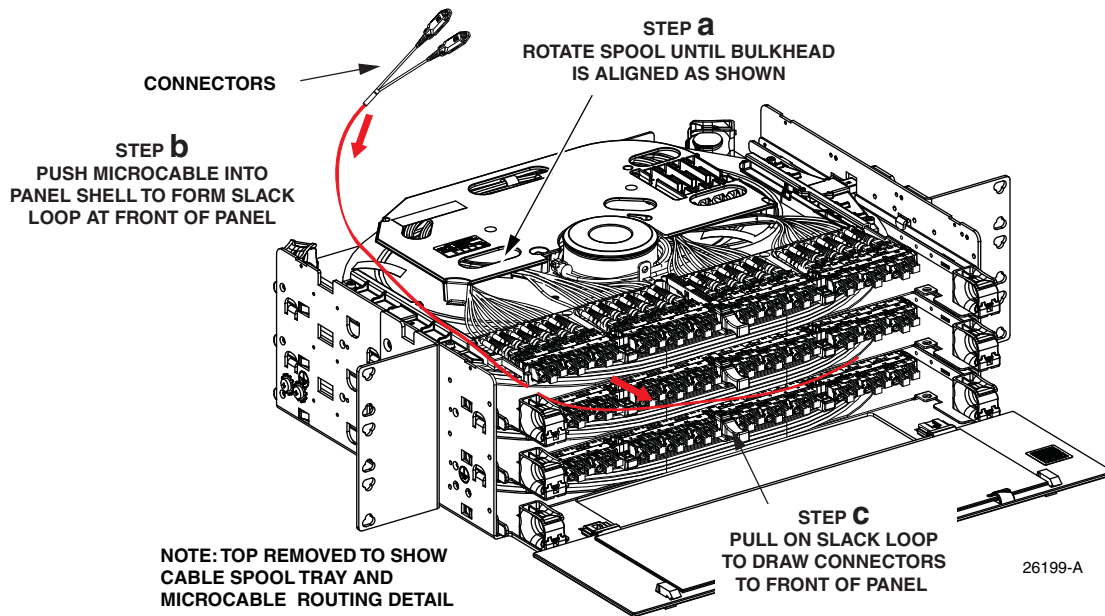

Figure 23. Pulling Microcable to the Front of the Panel Shell for Front Routing
- a. Pull out enough microcable to rotate the internal spool 90° as shown in Figure 23.